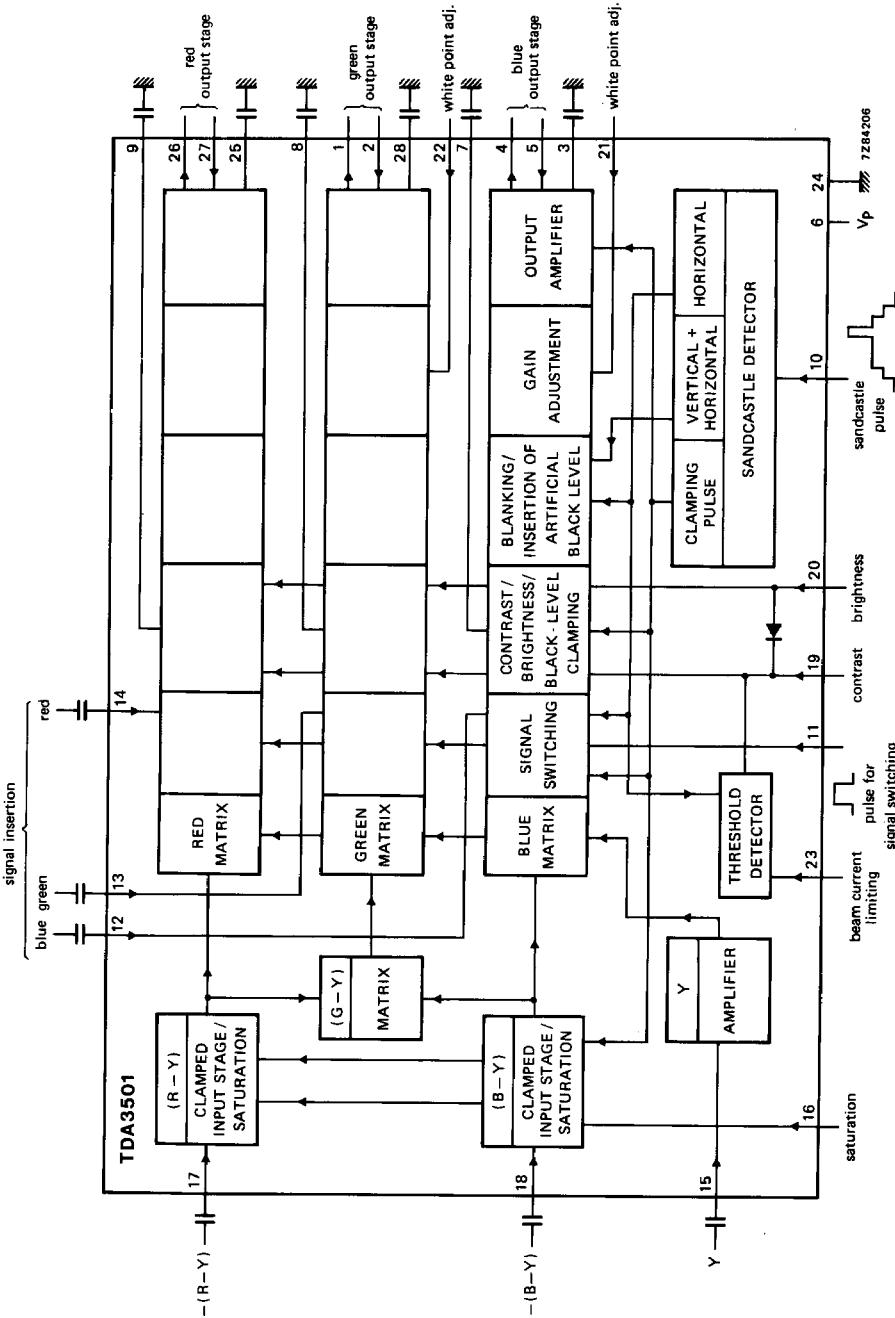

Fig. 1 Block diagram.
* During the clamping time (see sandcastle detector Fig. 1), the inserted RGB signals are clamped to the same black level as the internal RGB signals. For proper clamping, the internal resistance of the external signal sources should be $\leq 200 \Omega$.